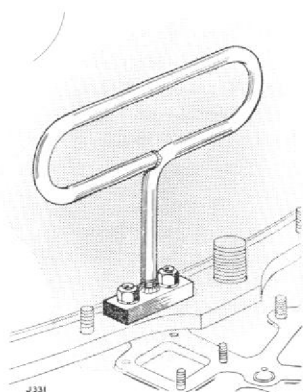

Fig. 20. Centre casing lifting handle T.72775 fitted to front flange of front cone.
14. 48 Mk. 1 only. Fit four lifting handles T.72775, Fig. 20, to the cooling air pipe attachment studs on the centre casing/rear cover flange, and using a rubber or raw-hide mallet to assist in breaking the joint, lift the front cone clear of the rear cover.